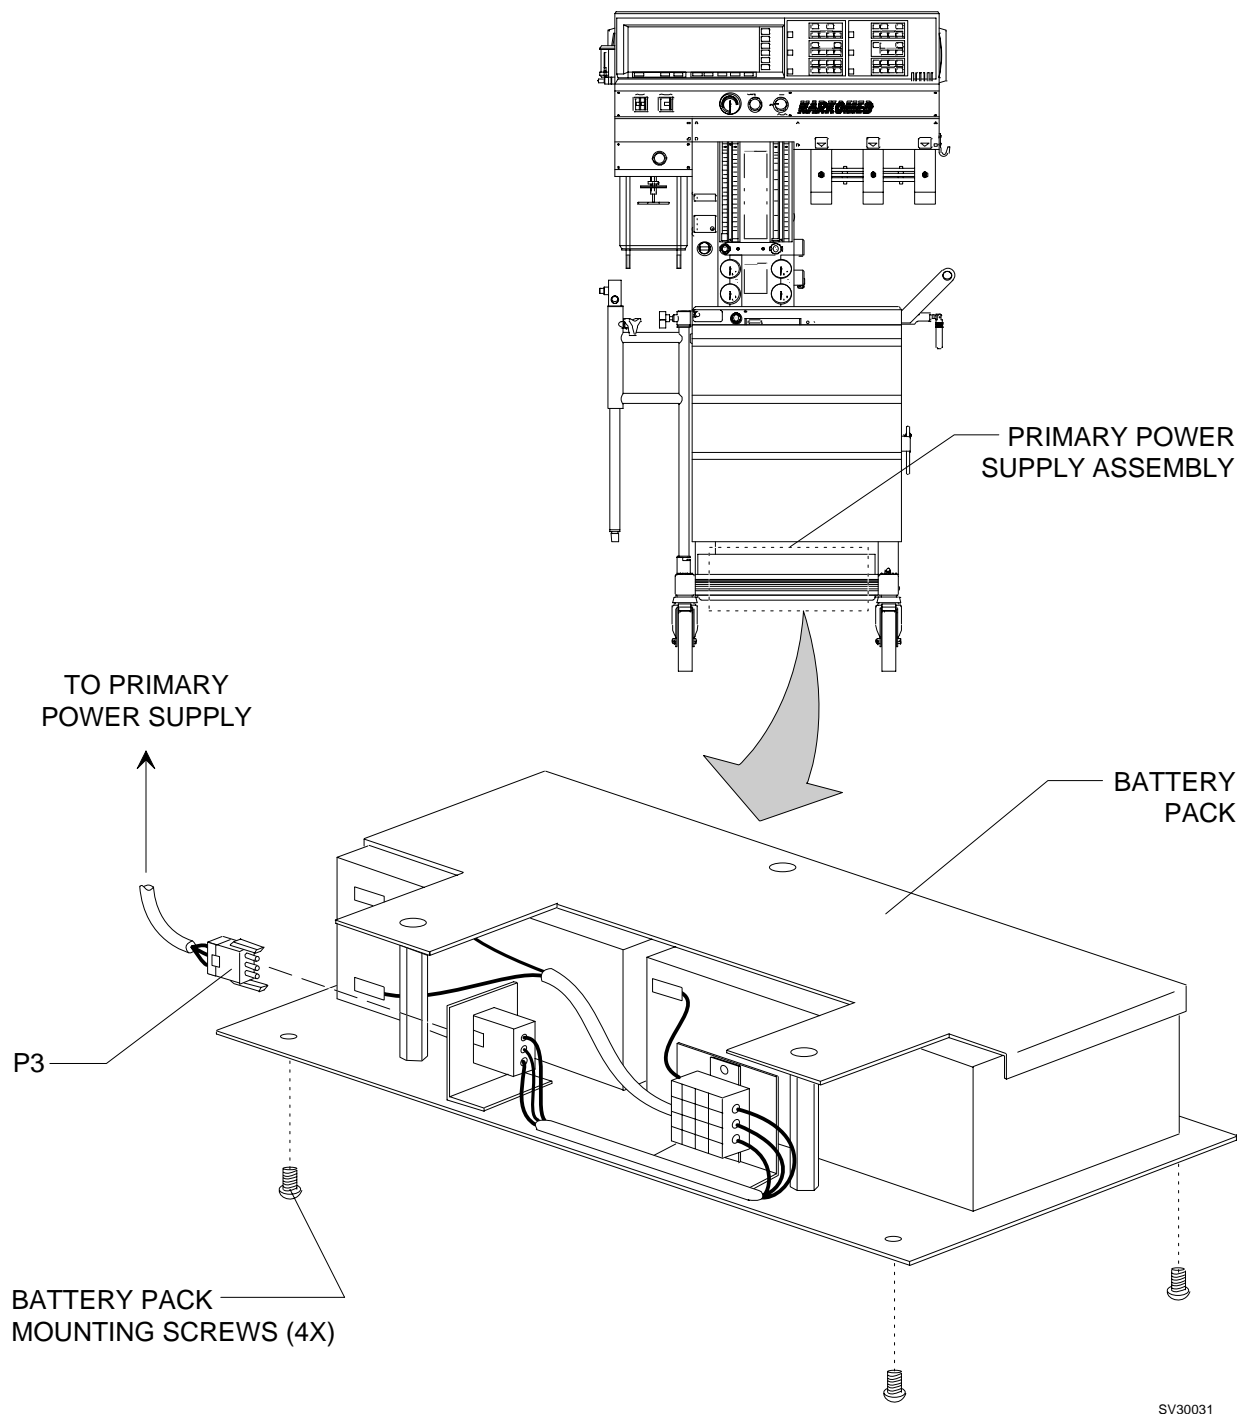

Figure 1: NARKOMED 3 BATTERY PACK
3. While supporting the battery pack (bottom rear panel on the primary power supply assembly), remove the four screws holding the battery pack to the primary power supply assembly and lower the battery pack to the floor. See Figure 1.